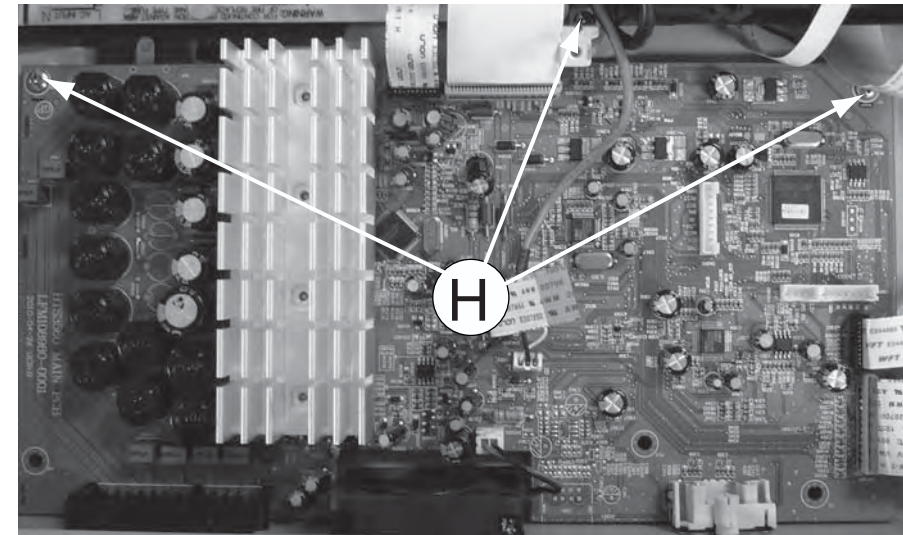

Figure 14
- 1) Loosen 3 screws "H" on the top of MAIN Board as shown in figure 14.